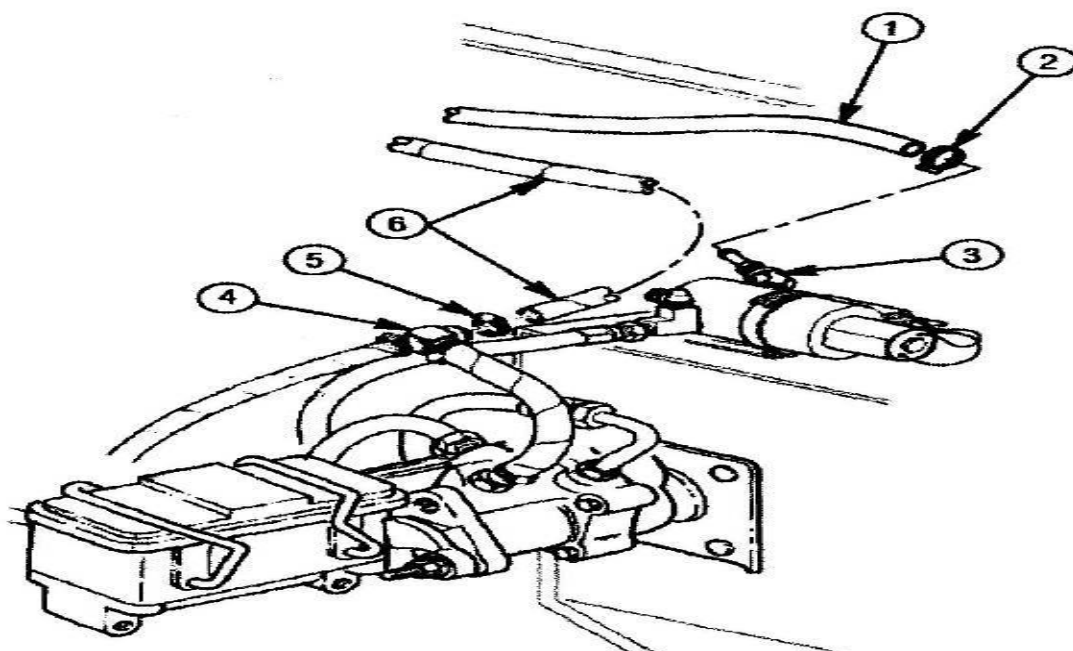

Figure 64
ee. Installation of Power Steering Fluid Lines. Refer to TM 9-2320-387-24-2, Chapter 8, Task Para 8-25, Page 8-68 and **Figure 64** contained in these instructions.
(1) Complete installation of power steering fluid return hoses as follows:
64. (a) Remove hose (1) and clamp (2) from elbow (3) as shown in **Figure**
(b) Cut off loose end of hose (1) as required, to ensure there are no kinks, and reinstall hose (1) and clamp (2) on elbow (3) as shown in **Figure 64**. Tighten clamp (2).
(c) Remove hose (6) and clamp (5) from tee (4) as shown in **Figure 64**.
(d) Cut off loose end of hose (6) as required, to ensure there are no kinks, and reinstall hose (6) and clamp (5) on tee (4) as shown in **Figure 64**. Tighten clamp (5).